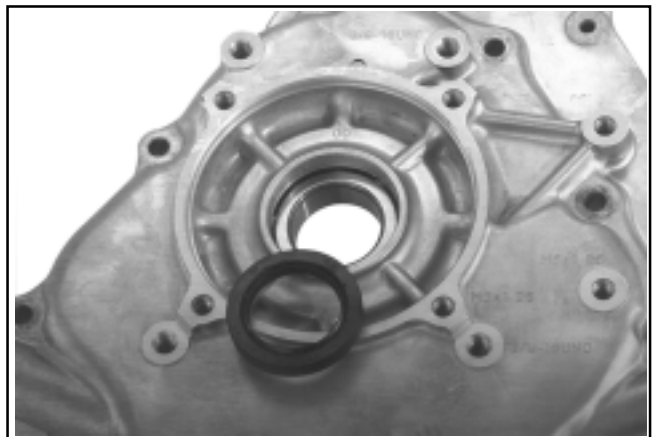

Figure 9-79. Removed Crankshaft Seal.
6. Remove the crankshaft seal. See Figure 9-79.